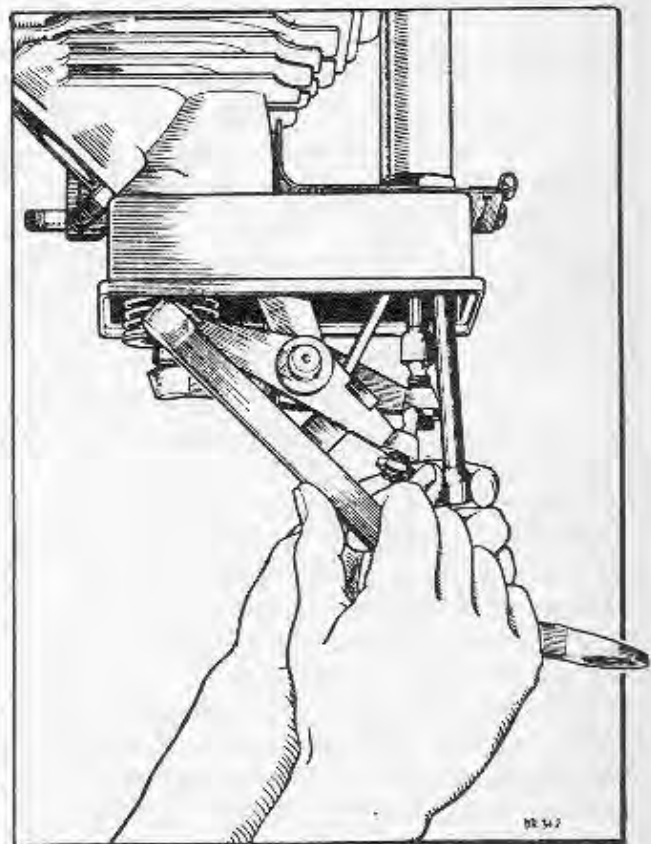

Fig. 6. Removal of push rods
54. Having removed all the relevant parts and checked that there is nothing to hinder the removal of the cylinder head or heads, proceed as follows. Using the valve spring compressor T1300-78A with its hook engaged under the rocker arm as illustrated in fig. 6, force down the valve until the tappet adjusting ball-end can be disengaged from the push rod and the latter withdrawn from push-rod cover. Remove the thimble from the tip of the valve stem. Repeat the process with the second rocker and push rod. Alternatively it may be possible to displace the rocker sideways against its bearing spring and disengage the push rod without use of the valve spring compressor. Having removed the push rods, telescope the push-rod covers and remove them from between the crankcase and cylinder head.